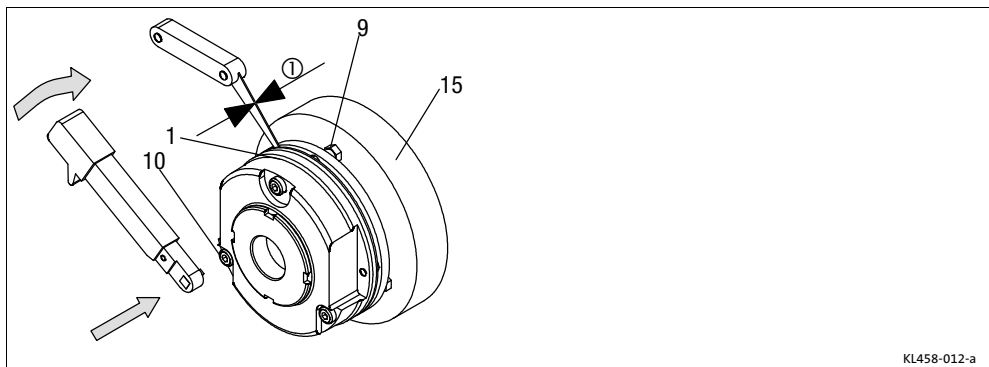

Fig. 3 Stator mounting
3. When assembling the stator (1), push the shaft sealing ring carefully over the shaft.
4. Use the screws (10) to mount the stator (7) completely to the end shield (15) (Fig. 3).